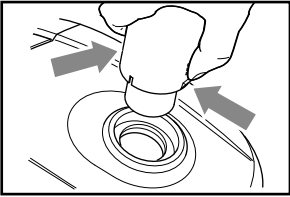

Fig. 2
- Fit the suction device (M) into the air inlet opening (F) and press it in until it clicks into place. To remove it, it is necessary to press the two release buttons (P) at the same time and to pull it out (Fig. 2).